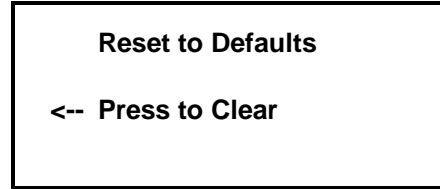

Figure 94
7. Place the Power switch to ON, clear the two information screens that appear, and the UNIT CLEANED message will be displayed. (See Figures 94, 95, and 96.)